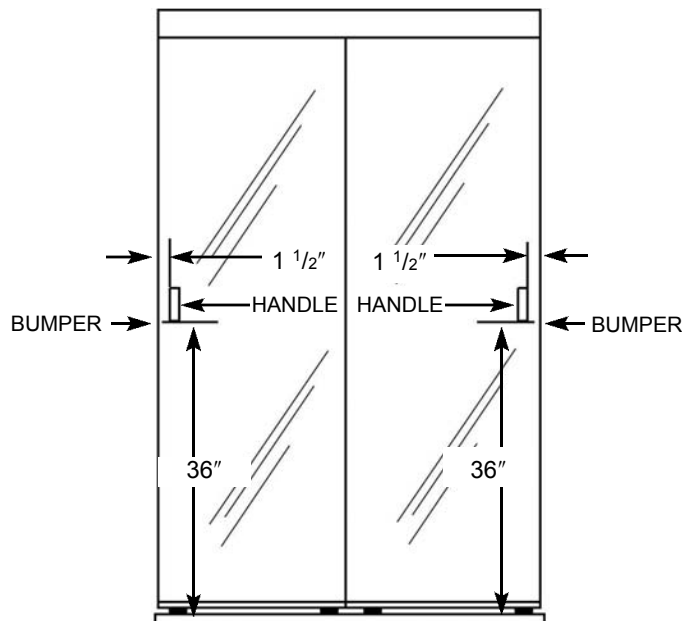

Figure 5
Peel paper off the back of the clear Plastic Bumpers (#9) and place on the edge of the panel frame 36" up from the bottom. The Clear Plastic Bumpers (#9) will cushion and protect the door and wall when you close the Wardrobe Doors (See Figure 5).
- A. Clean mirror in the area where the Mirror Handles (#8) will be applied. Peel paper off the back of the Mirror Handles (#8). Position each Mirror Handle (#8) 36" from the bottom of the Panel (#1) and 1 1/2" from Side Mold (#12) on each Panel (#1) (See Figure 5).